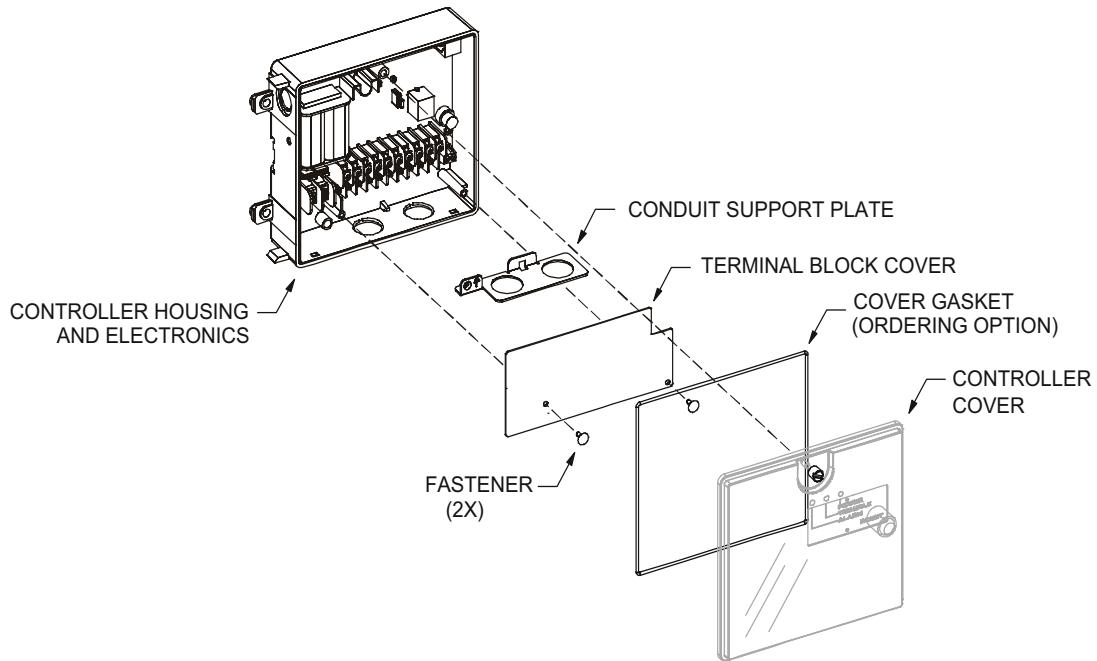

Fig. 2 — Controller Exploded View
2. Remove plastic cover from controller (see Fig. 2).
2. Locate sensor from the CRSMKSEN002A01 kit (see Fig. 2).